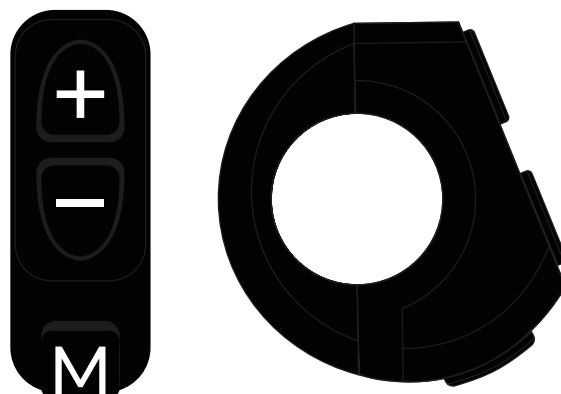

Fig. 25
- a. Thumb Throttle: are operated using your thumb (FIG 25), where you push down on a small, spring-loaded thumb-size paddle to engage the motor. The more you push down, the faster the bike will go.